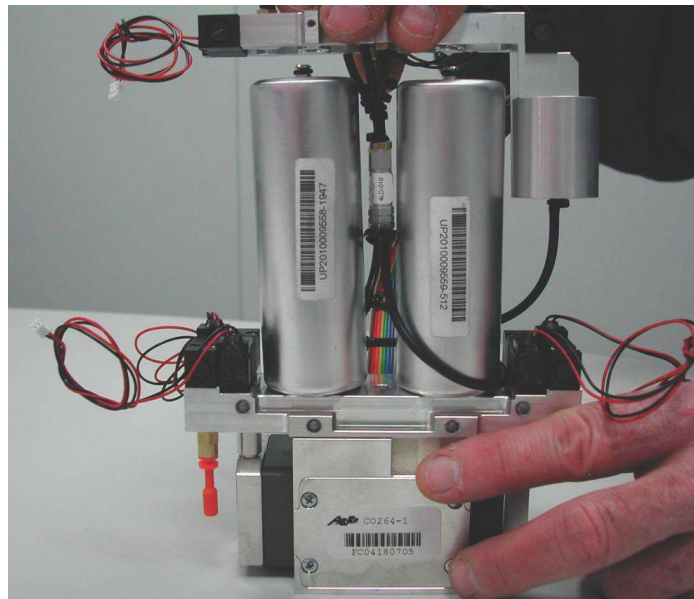

Figure 5.25
8. Align product manifold with the outlet on the new adsorbent beds and gently push down until the o-rings are completely seated. (Figure 5.25)